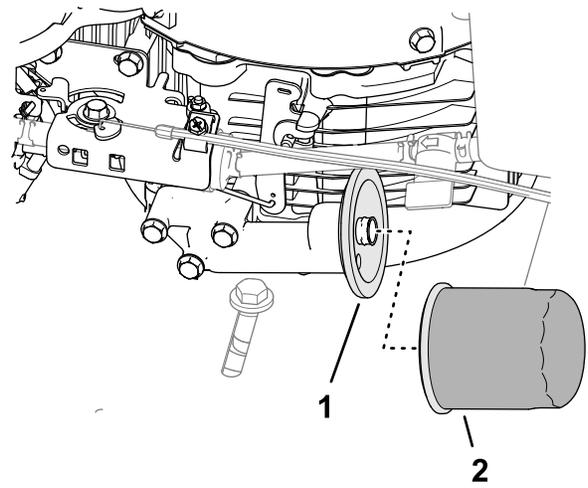

Figure 33
3. Remove the filter from the oil-filter adapter (Figure 33).